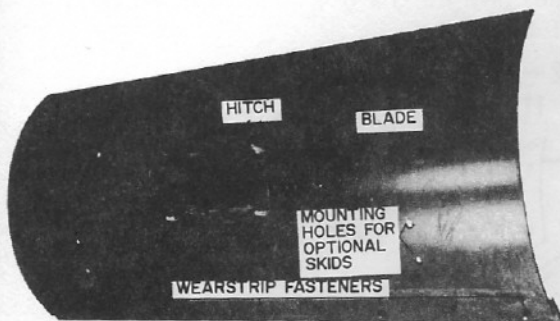

fig 2
2.1 Fasten hitch assembly to blade as in fig 2.